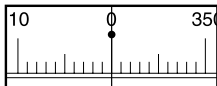

Fig.5.4
- 2) Sight point A, and set the horizontal circle ⑫ to 0° by turning the horizontal circle positioning ring ⑪. (Fig.5.4)